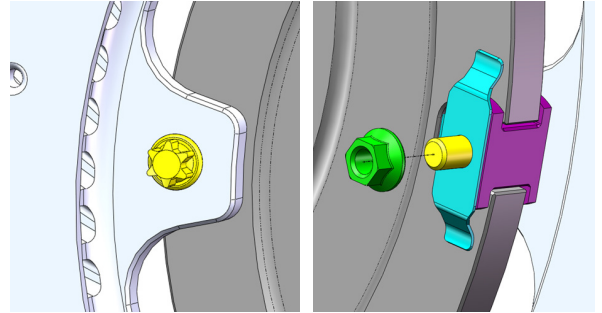

Fig 2: Bolt, clip & nut fitment.
Step 3: Insert the bolt through the disc flange and locate the clip before fitting the nuts. (Fig 2.)